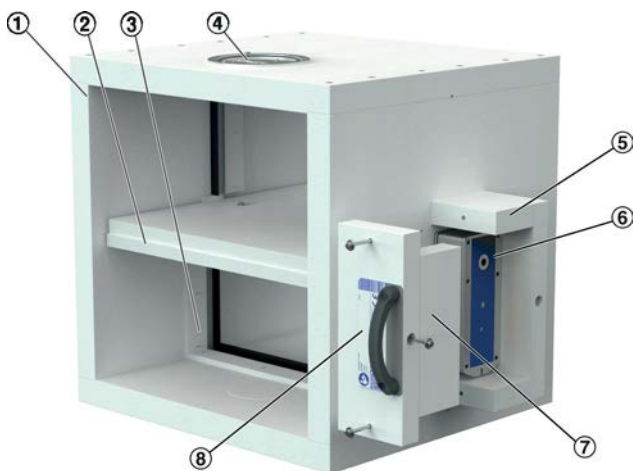

Fig. 4: Smoke control damper EK2-EU
- ① EK2-EU
- ② Connecting subframe (optional)
- ③ Fixing screw
- ④ Seal
- ⑤ Keep clear to provide access to the actuator encasing Fig. 4
- ⑥ Actuator encasing
- ⑦ Module encasing